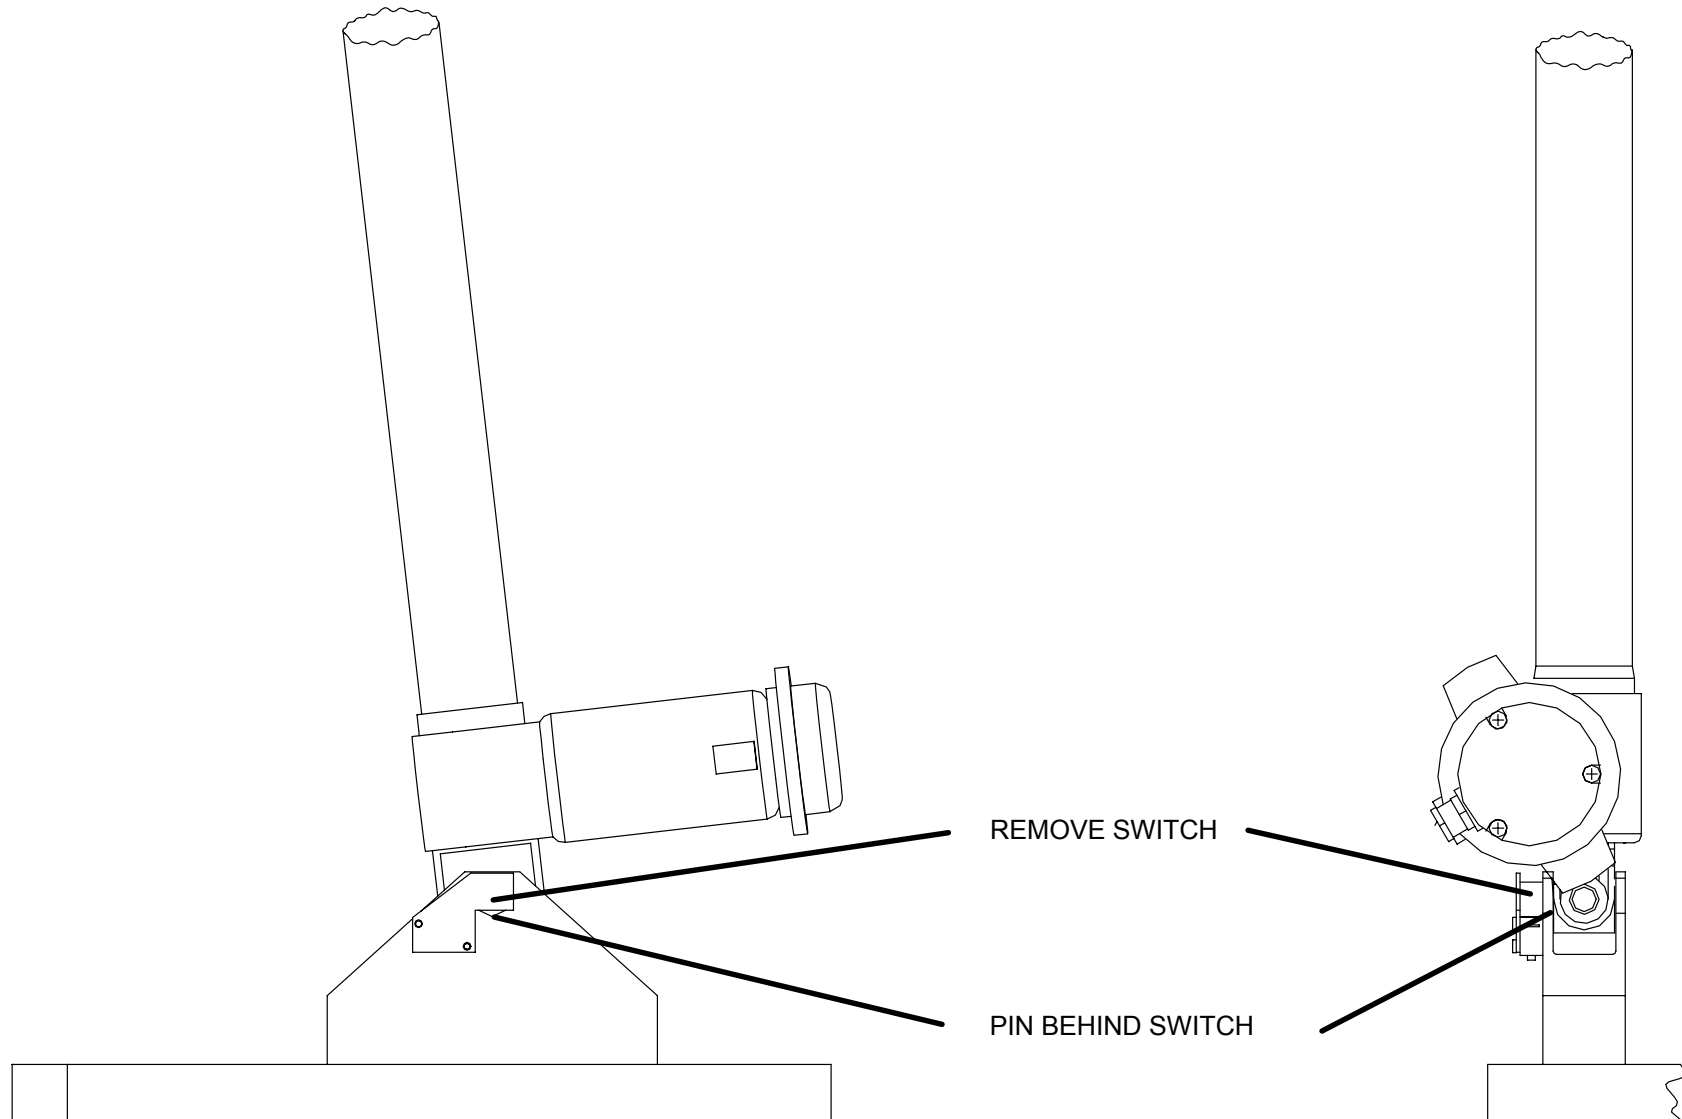

FIGURE 298 Tilt Arm— Pin Removal
9. Remove the actuator switch at the base of the tilt arm. This will expose the pin that secures the bottom of the tilt arm. Remove the pin. See Figure 298.
13. Position the Actuator into the Shoe and install the Pivot Pin. Install the Pivot Pin Retaining Screw and Washer. Refer to Figure 298. DO NOT connect the Actuator Extension Shaft to the Gantry at this time.